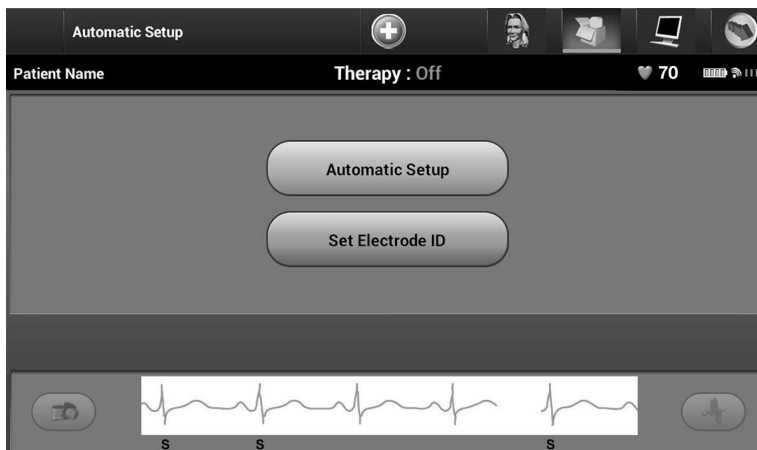

Figure 20: Select the Set Electrode ID button to enter electrode information
3. Select the Automatic Setup icon in the Navigation Bar. The Automatic Setup screen appears (Figure 20).